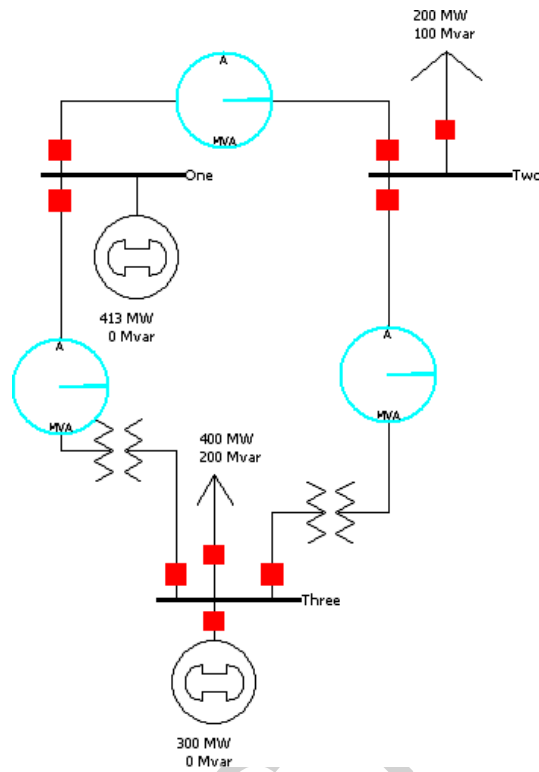

Figure-1
- After these additions the oneline diagram should resemble the Figure-1.